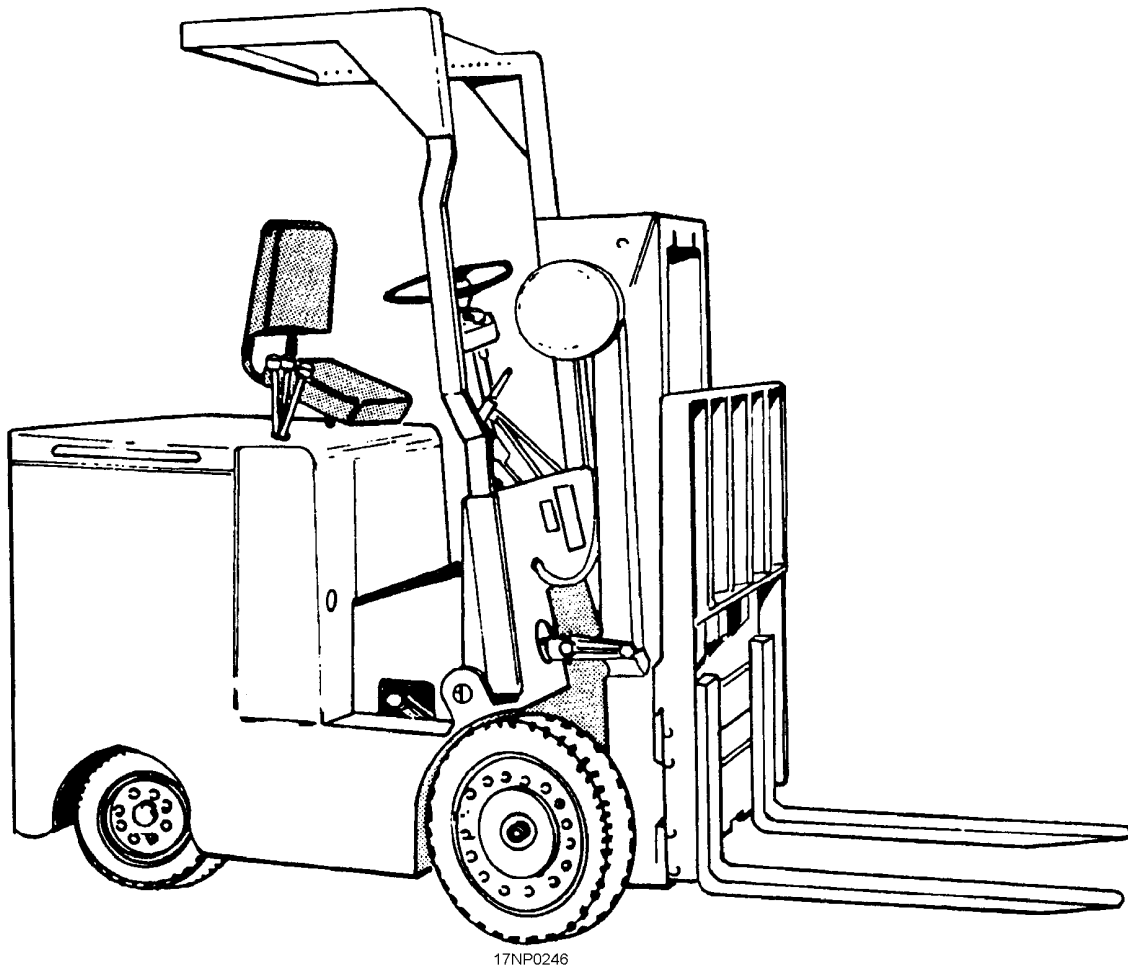

Figure 9-45.—Typical 4,000-pound capacity electric forklift truck.
**ELECTRIC FORKLIFT TRUCK, 4,000-POUND CAPACITY.**—A typical 4,000-pound capacity electric forklift truck is shown in (fig. 9-45). Many different models are currently used at naval